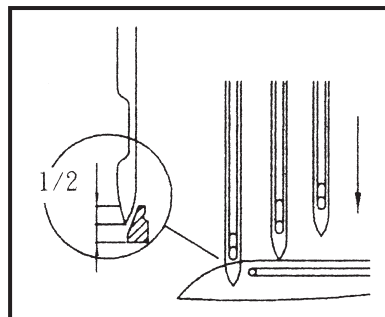
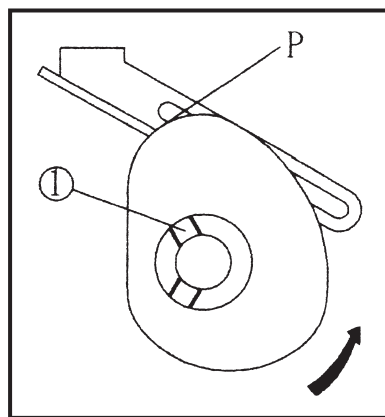

Fig.37
Fig.38
(Fig.38) is viewed left side of operator.
2. 當針從最高處下降時，左針大約位於勾針後面之一半的位置時(圖37) 勾針針線必須脫離凸輪之最高位置 (P)。(圖38)
When needle comes down from the highest position and the Left Needle tip reaches around 1/2 position of the looper, (Fig.37) the looper thread should come over the highest position (P) of the Cam. (Fig.38)
3. 調整螺絲①並調整之。